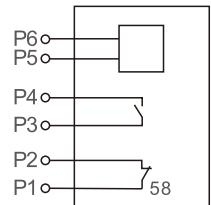

Fig1.
4.4.3 Leakage alarming module(RDM1L-125L,250L do not have it.) Specification: P5-P6 port for input power-source AC50/60Hz,230Vor 400V.P1-P2,P3-P4 port for capacity is AC230V 5A, see Fig1
2.Circuit breaker with leakage alarming module. when the leakage alarming is happening, the leakage protection module would function after resetting the reset button of Module II.Fig1.